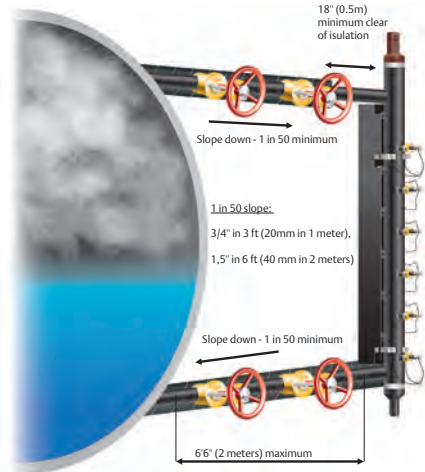

Figure 10.1.3: For optimum performance, process connections must be inclined
- It is critical to ensure that the process pipes between the boiler drum and the Hydrastep column are oriented and prepared as described and shown in the technical manual. Process connections must be inclined to aid condensate flow, with a portion of the upper connection remaining uninsulated to encourage condensate formation. See figure 10.1.3. Upper process connection pipes must not be insulated. Refer to the technical manual for full details of mechanical and electrical installation